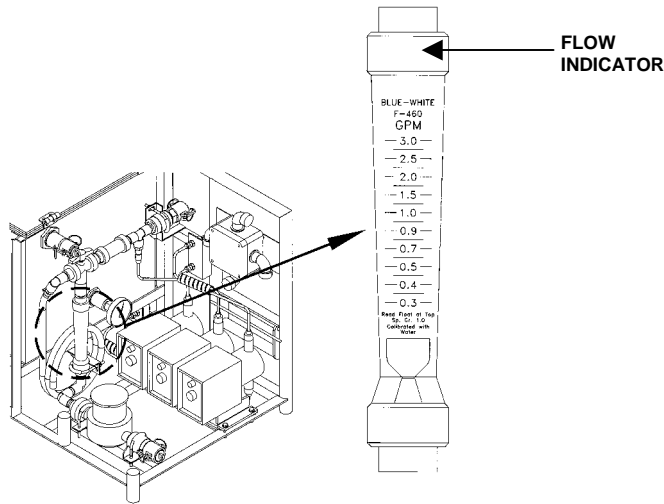

Figure 32. Product Flow Meter.
16. Observe float inside flow meter (PRODUCT WATER FLOW METER). Flow is read at the top of the float on the flow meter. See Figure 32.